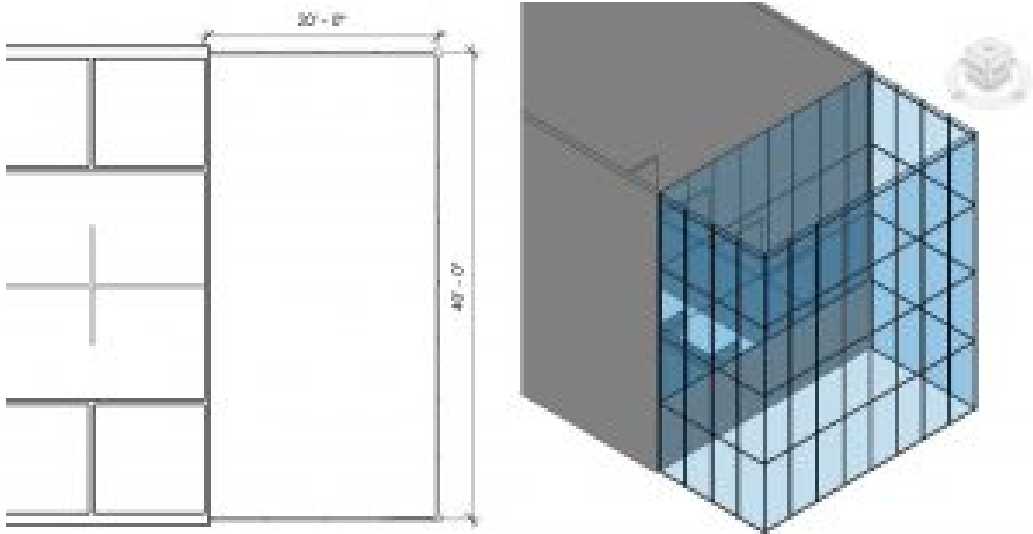

Figure 2.32 My Curtain Wall in plan view and in 3D view
10. Draw three walls as shown in Figure 2.32